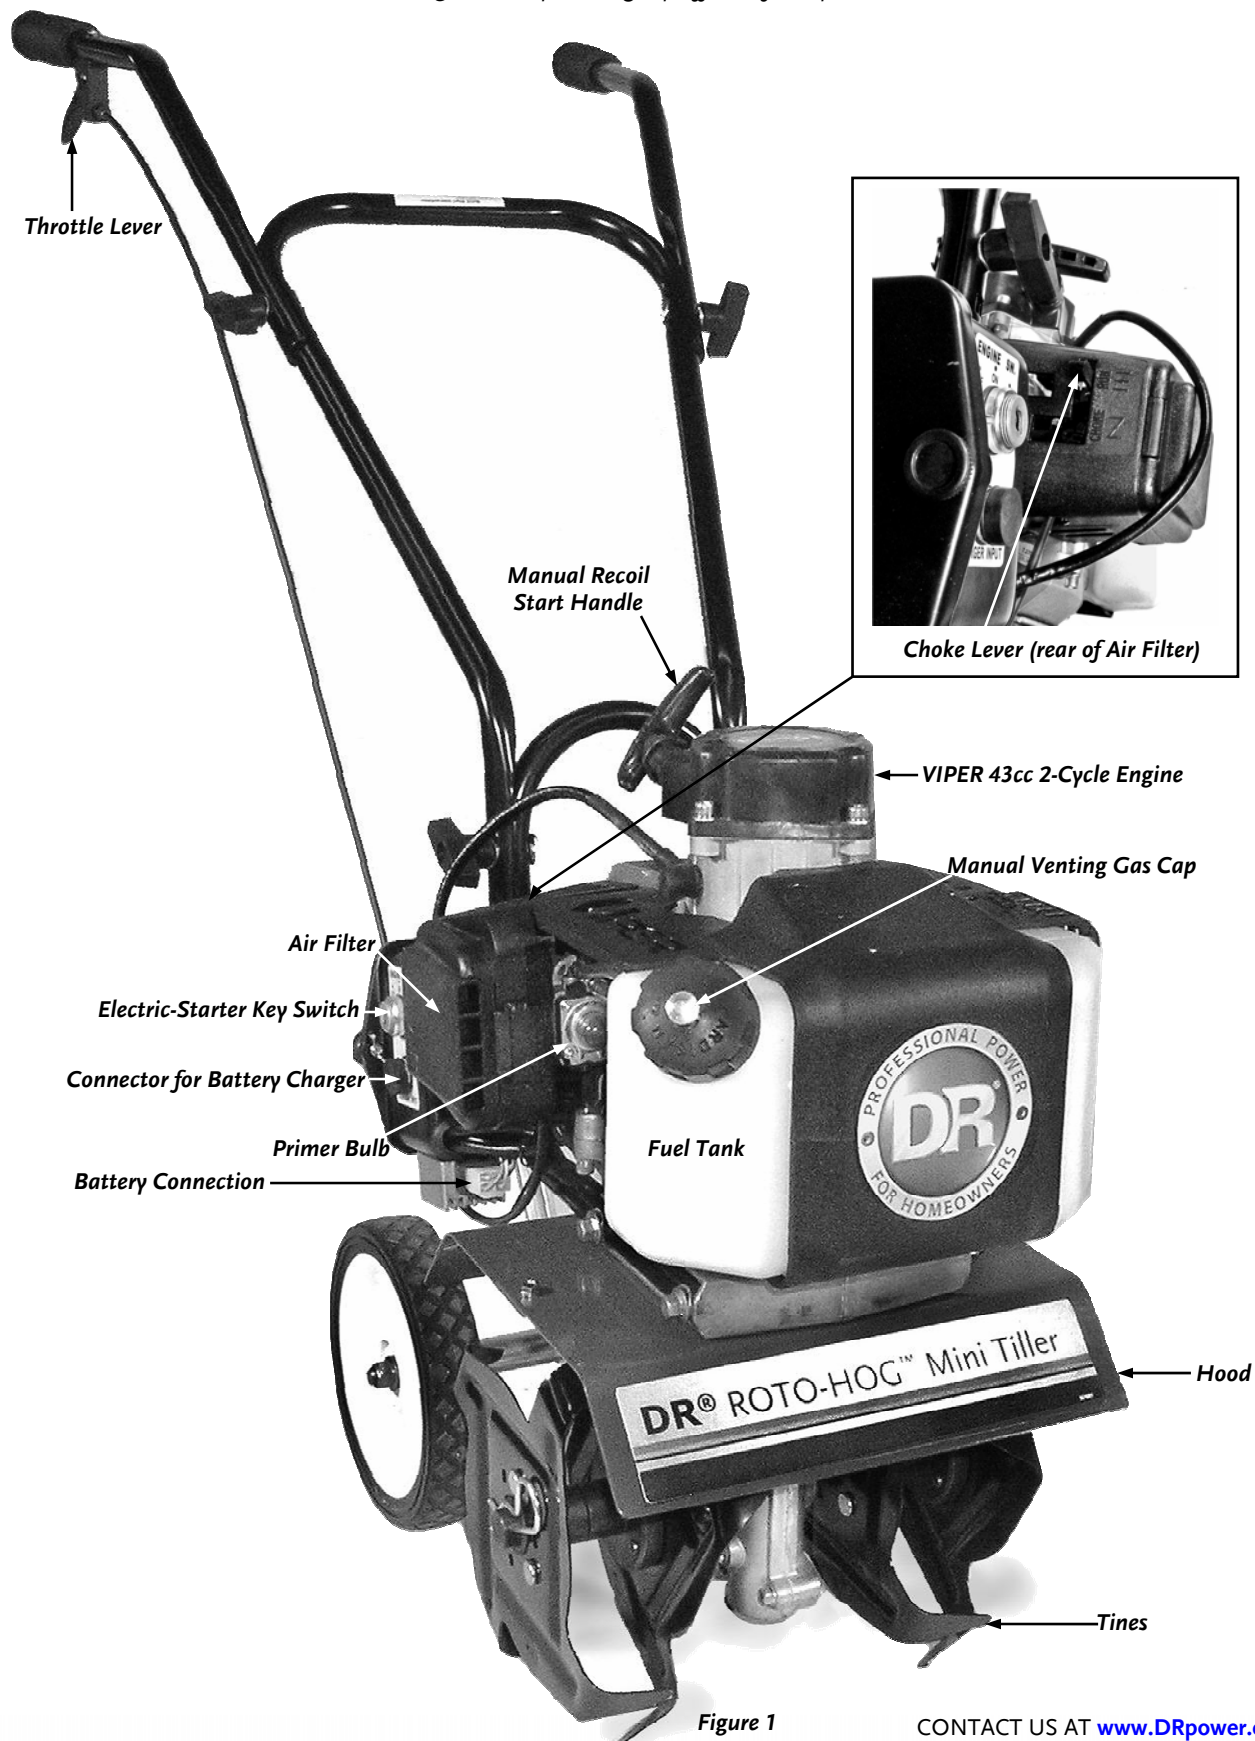

Figure 1
This chapter outlines a few simple steps you will need to follow to set up your new machine before you use it. It may be helpful to familiarize yourself with the controls and features on your new machine by reviewing **Figure 1** on the following page before beginning the steps outlined in this chapter. **For technical assistance, please visit our website at www.DRpower.com and one of our Technical Support Representatives will be happy to help you.**
NOTE: The model shown in **Figure 1** may look slightly different from your machine.
1. The DR ROTO-HOG Mini Tiller is equipped with a manual venting Fuel Cap. Before starting the Engine, make sure that Fuel Tank Cap is on tight and then turn the screw in the top of the Fuel Tank Cap (**Figure 1** on page 7) 2 to 3 turns counterclockwise to its venting position. **DO NOT** turn the screw to the point that it stops (4 to 5 turns).
2. When starting a cold Engine, push the Choke Lever to the RUN position (**Figure 1** on page 7).
3. Push the Primer Bulb in (**Figure 1** on page 7) and then release until it returns to its original position. Repeat this process until the Primer Hose is full of fuel.
3. Turn the Ignition Key (**Figure 1** on page 7) with your left hand all the way clockwise until the Engine starts, then release. The Key will snap back to the ON position and the Engine will continue to run.